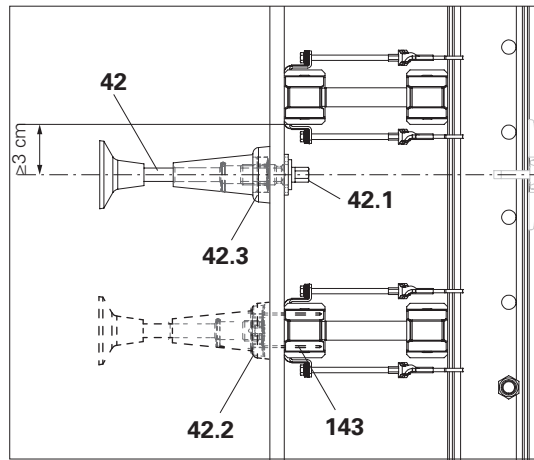
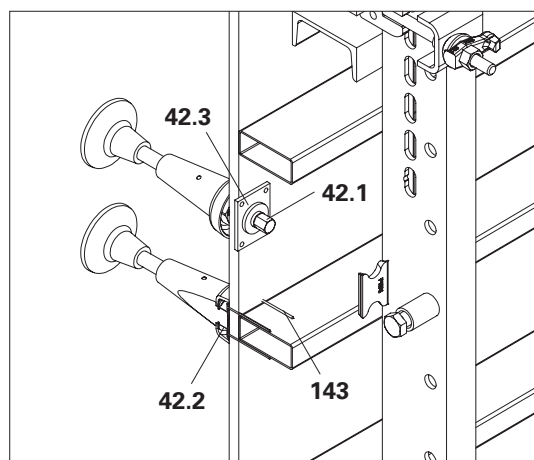

Fig. B6.01
Fig. B6.02a
Keep a distance of at least 3 cm between the leading tie axis and the adjacent girders so that the leading tie (42) can be fitted with the positioning screw (42.1). (Fig. B6.01)
If the tie position falls on struts (41.1) or girders, then fit the leading tie with an anchor positioning stud. Nail the Anchor Positioning Stud M30 (42.2) to the formlining with wire nails 3.0 x 80 (143). See Fig. B6.01 – Fig. B6.02a, bottom example in each case.